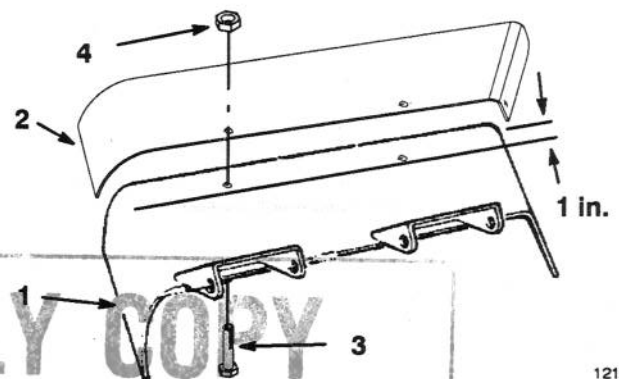

Figure 1
1. Position discharge deflector over end of discharge chute (Fig. 1). Overlap end of chute 1 inch.
2. Using discharge deflector as a template drill (2) 9 mm holes in discharge chute
3. Secure discharge chute extension to discharge chute with (2) 5/16 x 19 mm bolts, through from the bottom and thin lock nuts (Fig. 1).